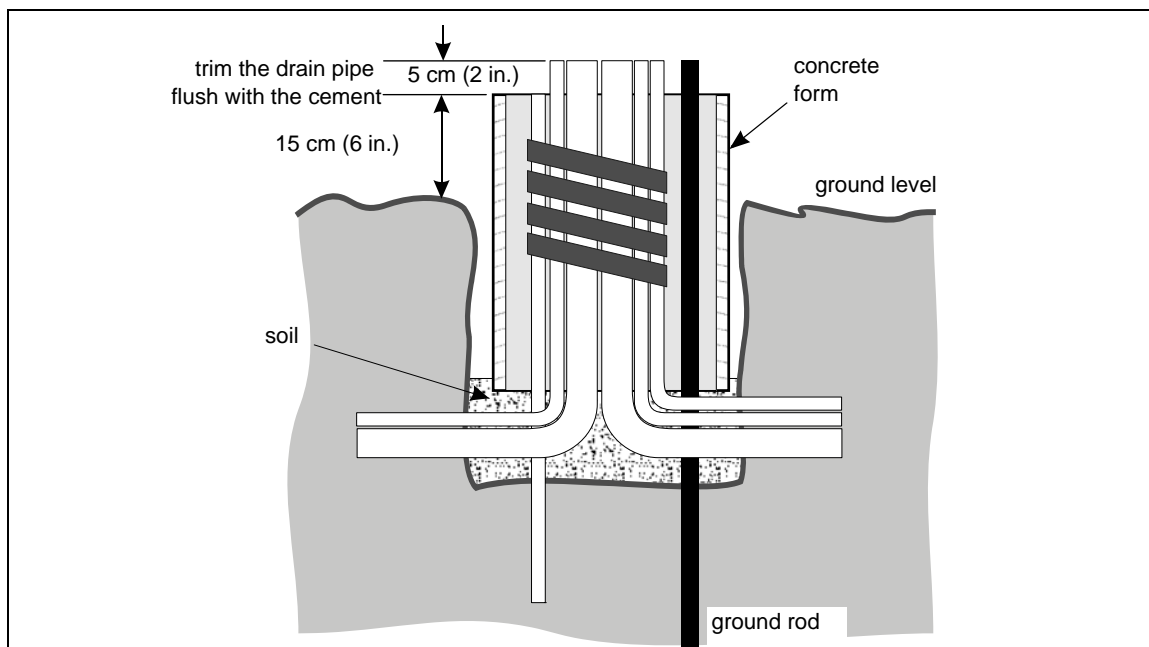

Figure 53: Positioning the concrete form
1. Position the concrete form in the hole, over the conduit assemblies, so that the top of the form is 15 cm (6 in.) above ground level with the pipes centered (see Figure 53: Positioning the concrete form). i